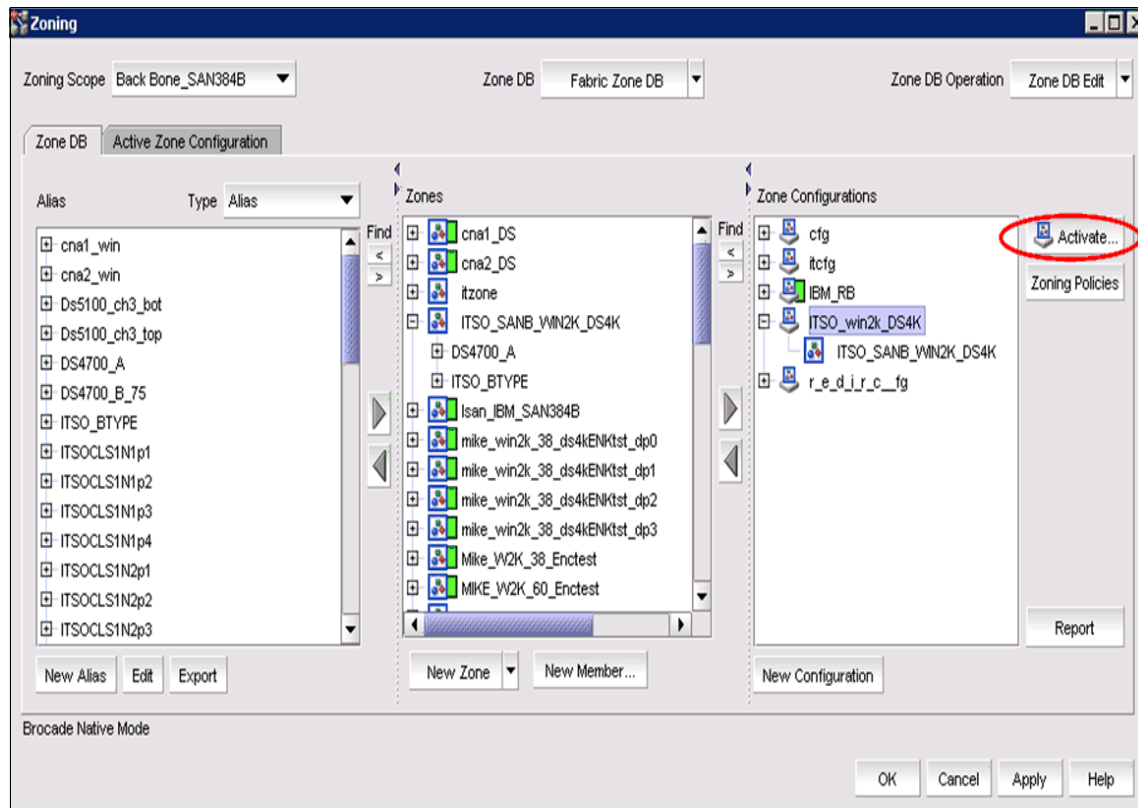

Figure 12-20 Enable Config
2. To activate a configuration, highlight the configuration in the Zone Config section and click **Activate...** See Figure 12-20.